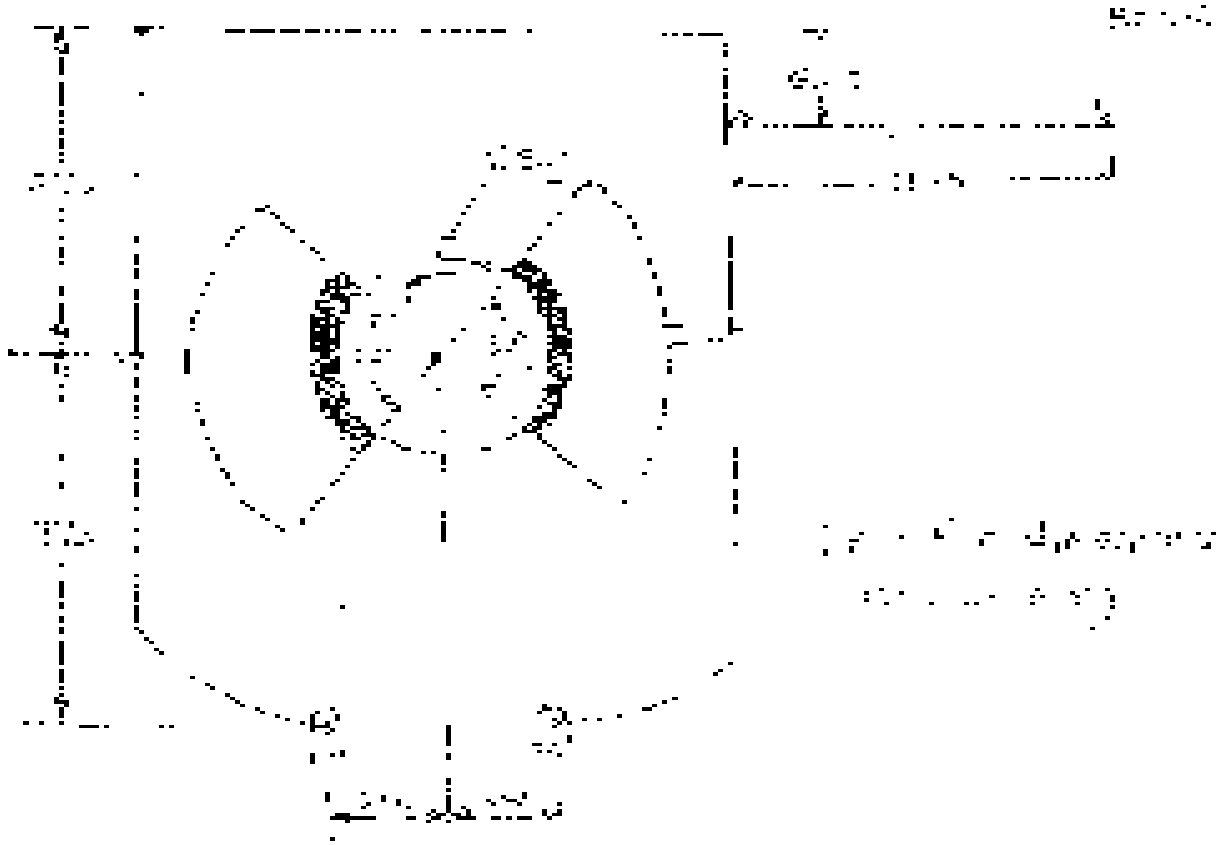

Figure 1 [Q. 4 (b)]
- b) A pivoted double block brake as shown in figure 1 has a face width of 50 mm and coefficient of friction as 0.25. The pivot of each shoe is located such that the moment of friction forces on shoe about the pivot is zero. If the brake drum rotates at 600 rpm calculate **12**